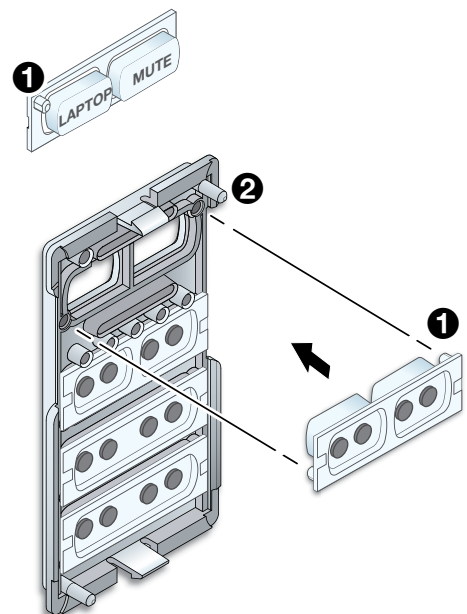

Figure 6. Replacing the Buttons
3. On the back of the bezel, insert the replacement button or button pair into the appropriate slots. Ensure the text is in the correct orientation. Align the two pegs in the button membrane (see figure 6, ❶) with the holes located at opposite corners of the empty space in the faceplate.
4. Press the two buttons into the faceplate until the pegs on the membrane are seated in the corresponding holes (❷).